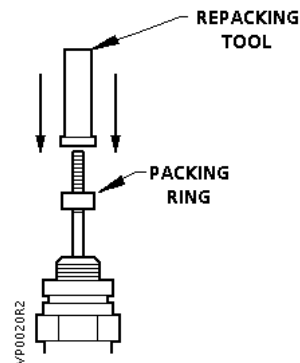

Figure 5. Use of the Repacking Tool.
- Slide the packing ring over the stem and push it to the bottom of the packing chamber with the repacking tool (included in the kit). See Figure 5.